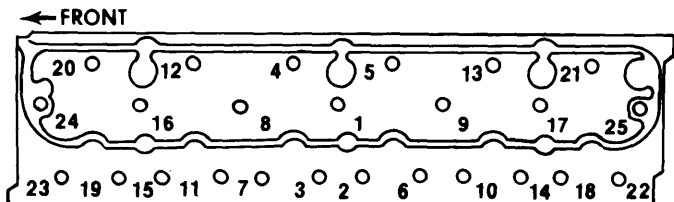

Fig. 2 Cylinder Head Tightening Sequence
2) Install head bolts and tighten in sequence as shown in Fig. 2. Install push rods and rocker arm assembly.